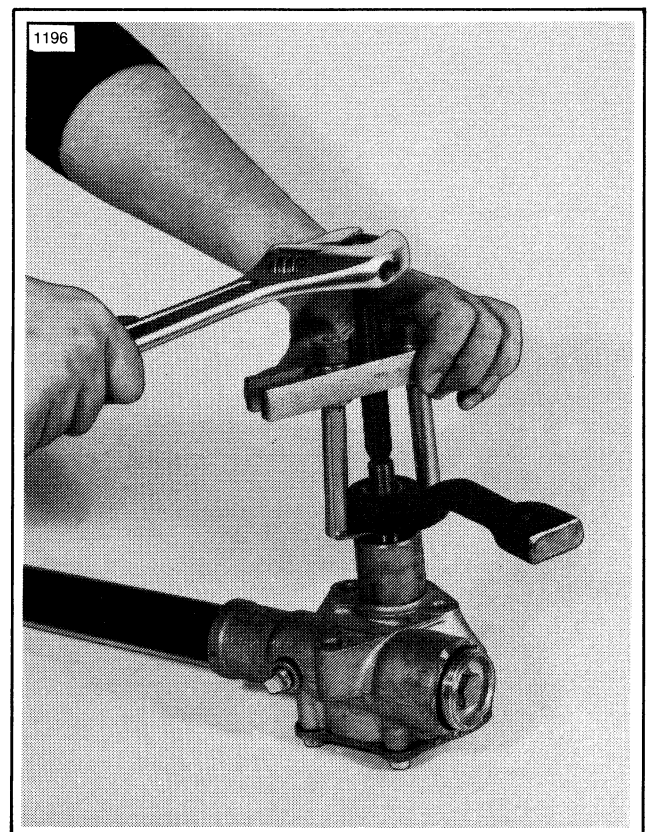

Figure 2-16. Pulling Pitman Arm
4. Remove nut (10) and lockwasher (9) from steering shaft (17).
5. Remove pitman arm (11) by using Harley-Davidson CLAW PULLER TOOL, Part No. 97292-61. See Figure 2-16.